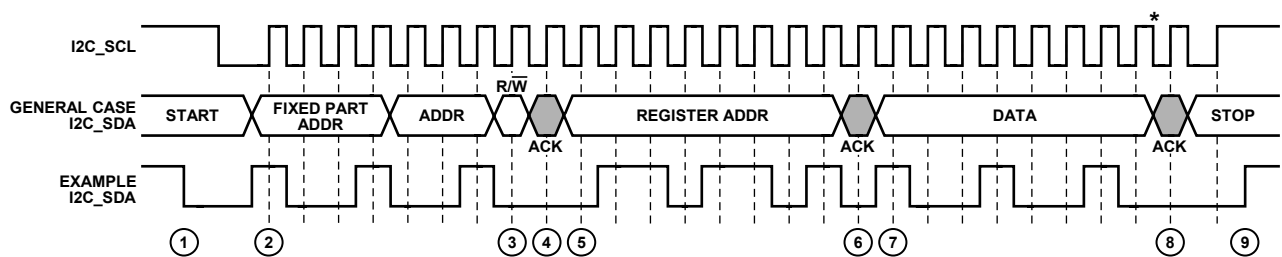

Figure 29. I²C Write Diagram
To write data to the AD8191 register set, an I²C master (such as a microcontroller) needs to send the appropriate control signals to the AD8191 slave device. The signals are controlled by the I²C master, unless otherwise specified. For a diagram of the procedure, see Figure 29. The steps for a write procedure are as follows:
3. Send the write indicator bit (0).
- 9a. Send a stop condition (while holding the I2C_SCL line high, pull the I2C_SDA line high) and release control of the bus to end the transaction (shown in Figure 29).